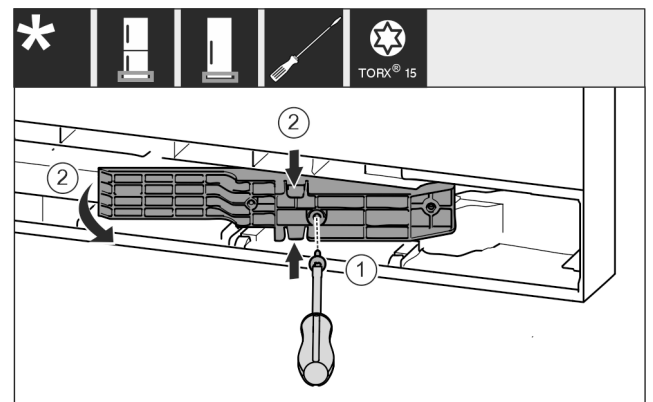

Fig. 16 *
- ▶ Loosen the screws with a T15 screwdriver. Fig. 16 (1)*
- ▶ Pull out the adapter. Fig. 16 (2)*